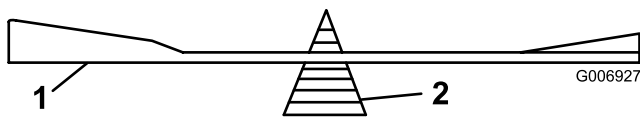

Figure 31
2. Check the balance of each blade by putting it on a blade balancer (Figure 31). If the blade stays in a horizontal position, the blade is balanced and can be used. If the blade is not balanced, file some metal off of the back side of the blade. Repeat this step until the blade is balanced.